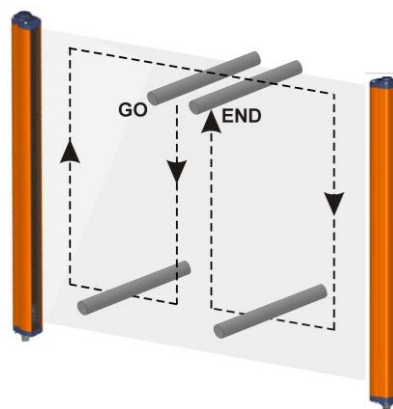

Fig. 14
- ESPE remains blocked (➡) intercepting the beams along the protected area using the specific test piece, following the Fig.14 scheme.